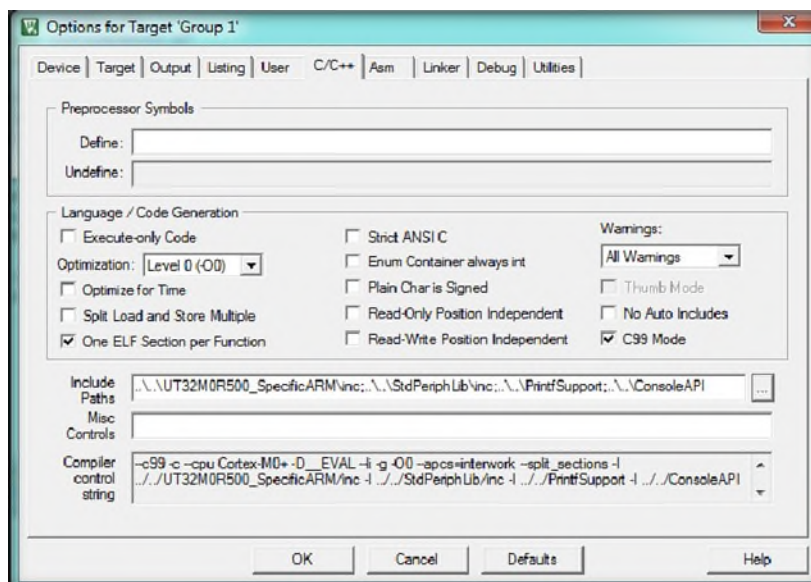
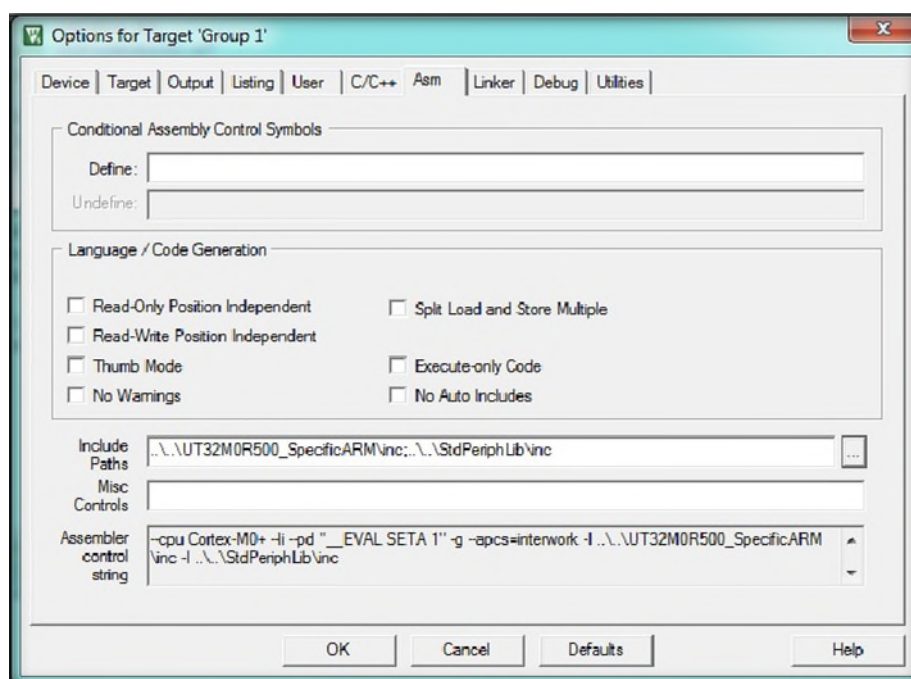

Figure 6: C/C++ Include Paths
Figure 7: ASM Include Paths
11. Right-click on **Target1** and select **Options for Target 'Target 1'...** see Figure 6-11 for basic settings—Change settings according to the particular project. For **C/C++** and **Asm** tabs, click  and setup the compiler include paths; see Figure 6 and Figure 7.